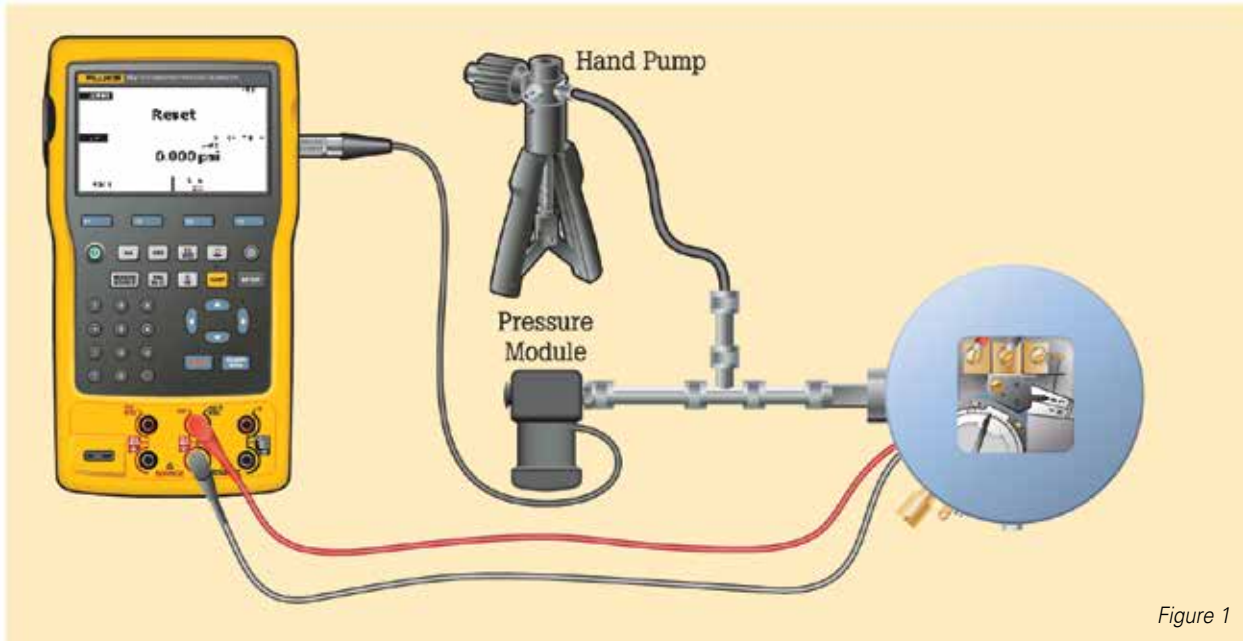
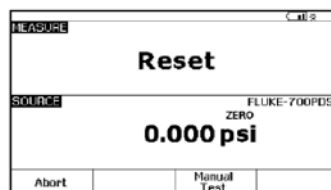

Figure 1
Figure 4
- Connect a pump to the pneumatic input of the switch with a tee connection into the pressure module, like the Fluke-700 Series pictured in *Figure 1*.
When all connections are complete it should resemble *Figure 1*.
The test can now be performed by selecting the MANUAL TEST softkey (see *Figure 4*). Using the hand pump connected (see *Figure 1*), vary the pressure applied to the pressure switch and pressure module slowly, back and forth across the set-point and reset points. It will be